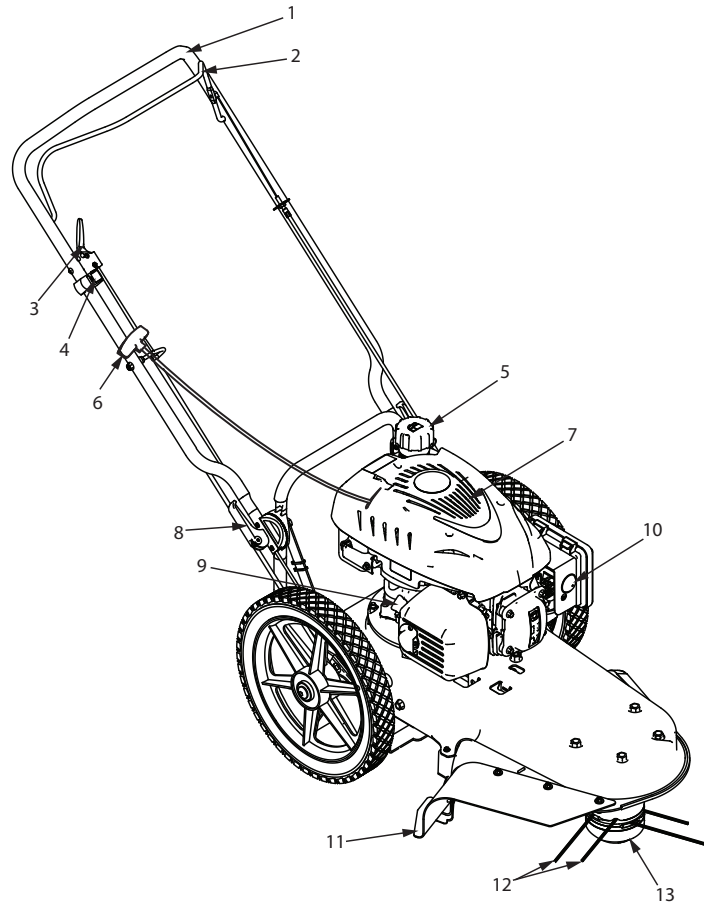

FIGURE 1: *String Mower Features*
Read this owner's manual and safety rules before operating your mower. Take time to compare the following illustration with the mower to familiarize yourself with the product and its controls. **SEE FIGURE 1**
1. Before each use, remove debris from the debris screen. **SEE FIGURE 1 IN "FEATURES" SECTION.** Debris can cause the engine to overheat. Wipe the debris screen with a cloth or paper towel.